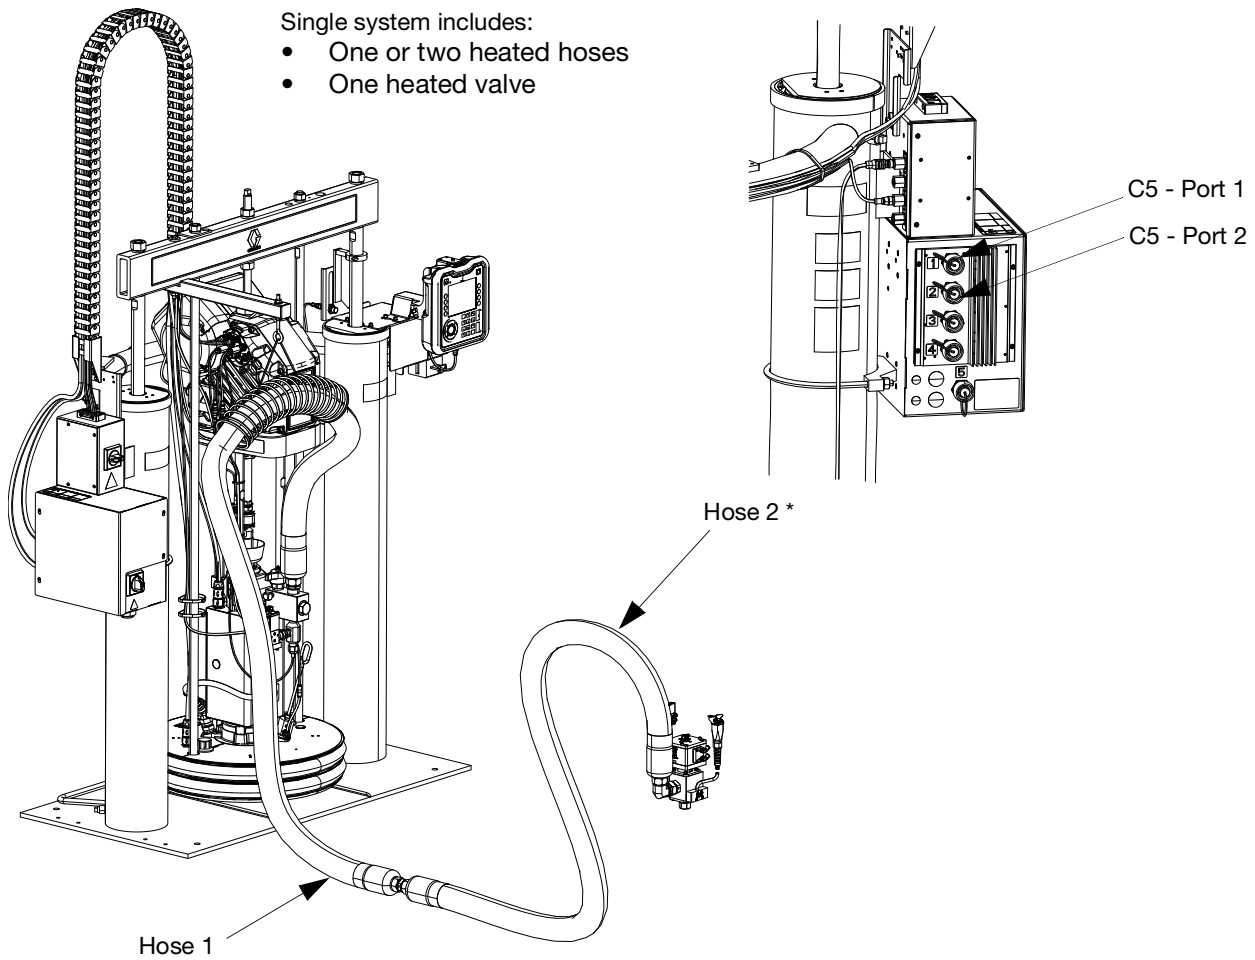

FIG. 25
- Heated valve - Square electrical connections from hose 2 to Axial Dispense Valve (B). See FIG. 25.